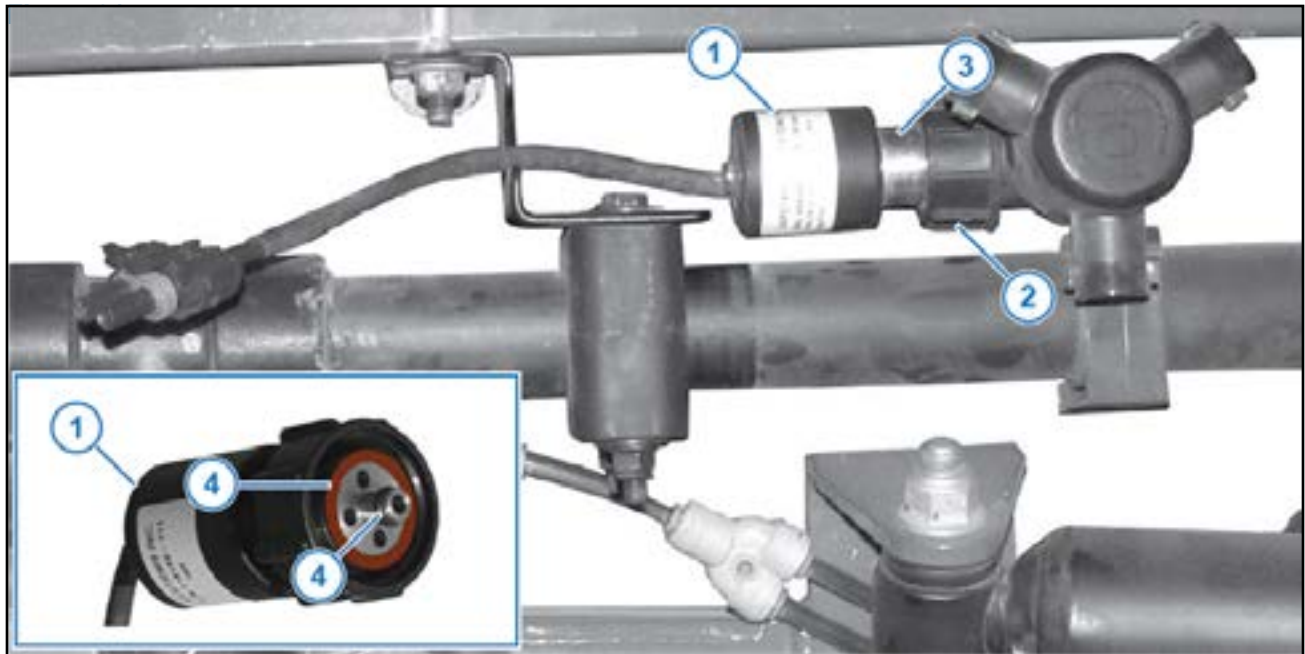

Figure 32: Nozzle Valve Leaks
18. If the coil housing (Figure 32, Item 1) spins, tighten the fly nut (Figure 32, Item 2) until the coil housing does not spin.
19. If the coil housing does not spin, remove the nozzle valve (Figure 32, Item 3).
20. Inspect the O-rings (Figure 32, Item 4). If an O-ring is damaged, replace the O-ring. If the O-rings appear to be okay, install the existing nozzle valve.